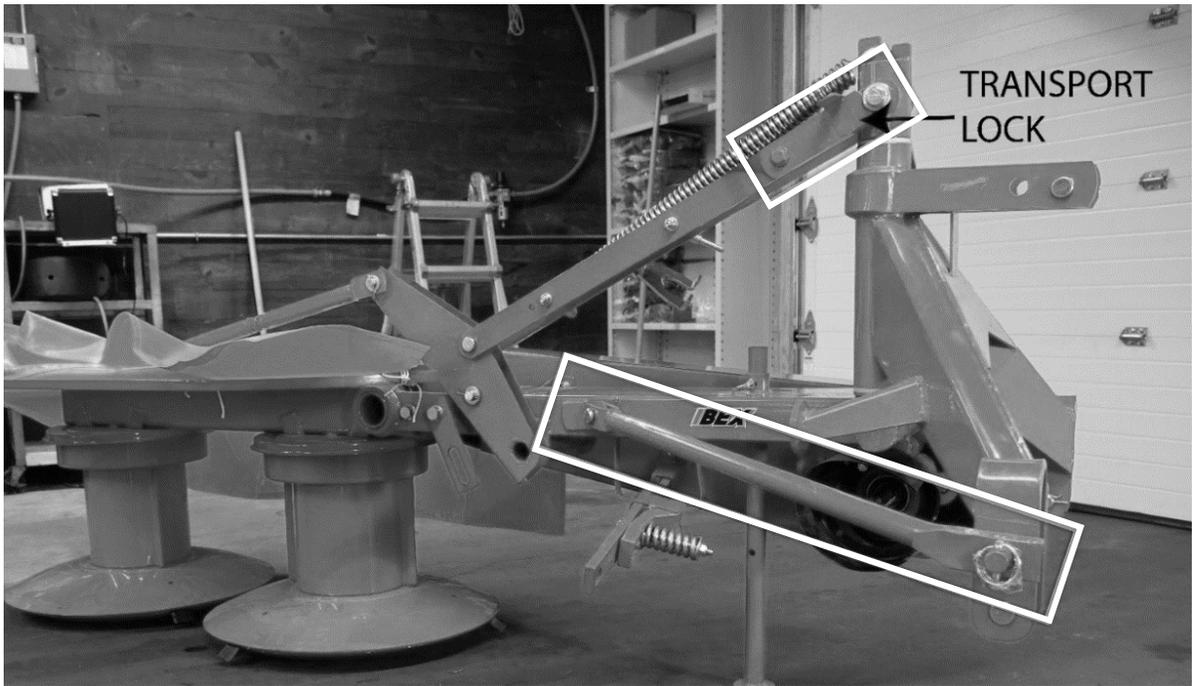
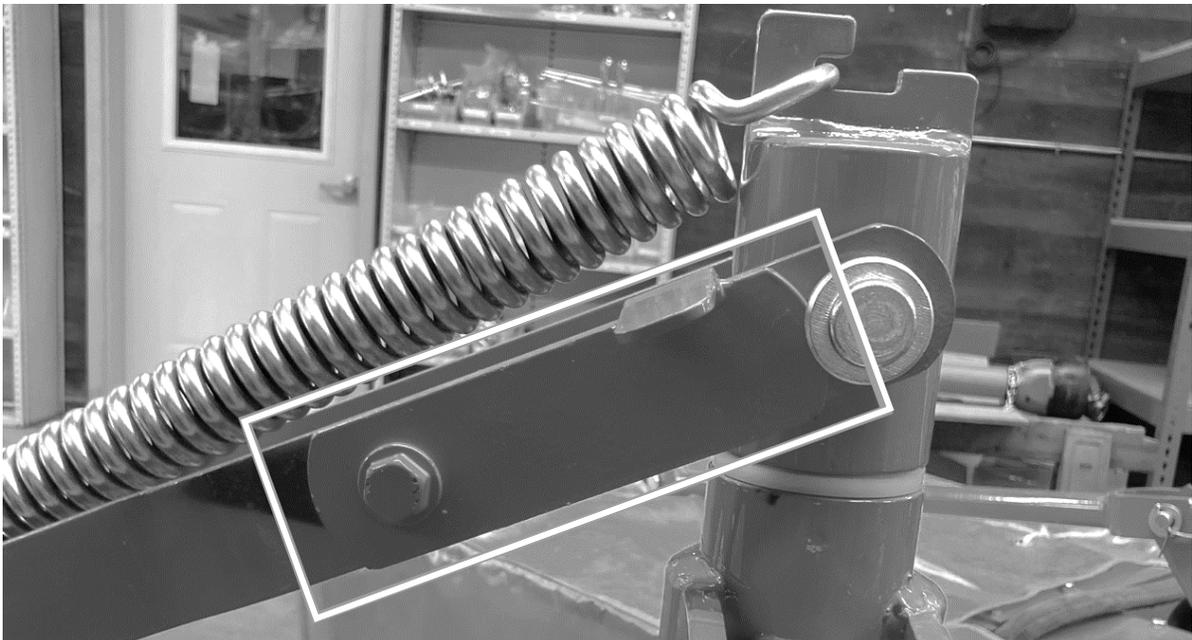

Figure 29
Figure 30
- 3.5.1 Connect the mower to the tractor's 3 point hitch. Install the transport sway bar. Move the transport lock into the locked position, as shown in Figure 29 & Figure 30. You may need to lift the 3 point hitch to fully engage the transport lock. If the transport lock is difficult to move, loosen the retaining bolt just slightly.